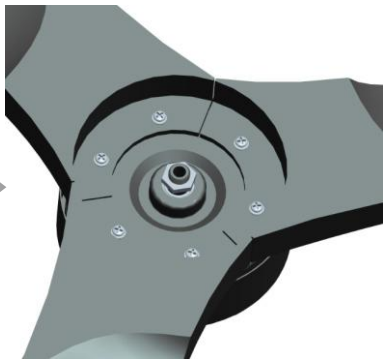

Fig 1.2
1.2 Three blades installed are shown in Fig 1.2.